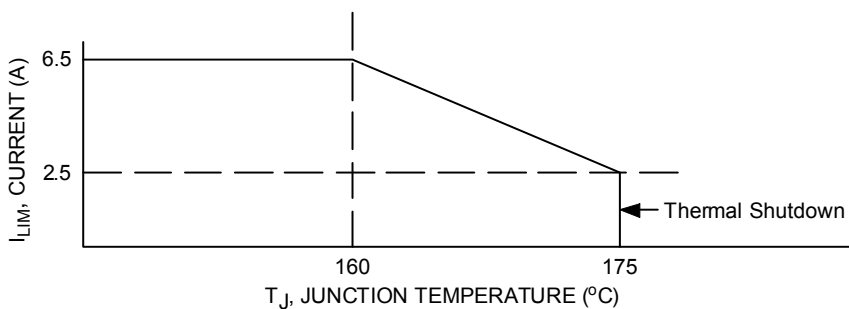
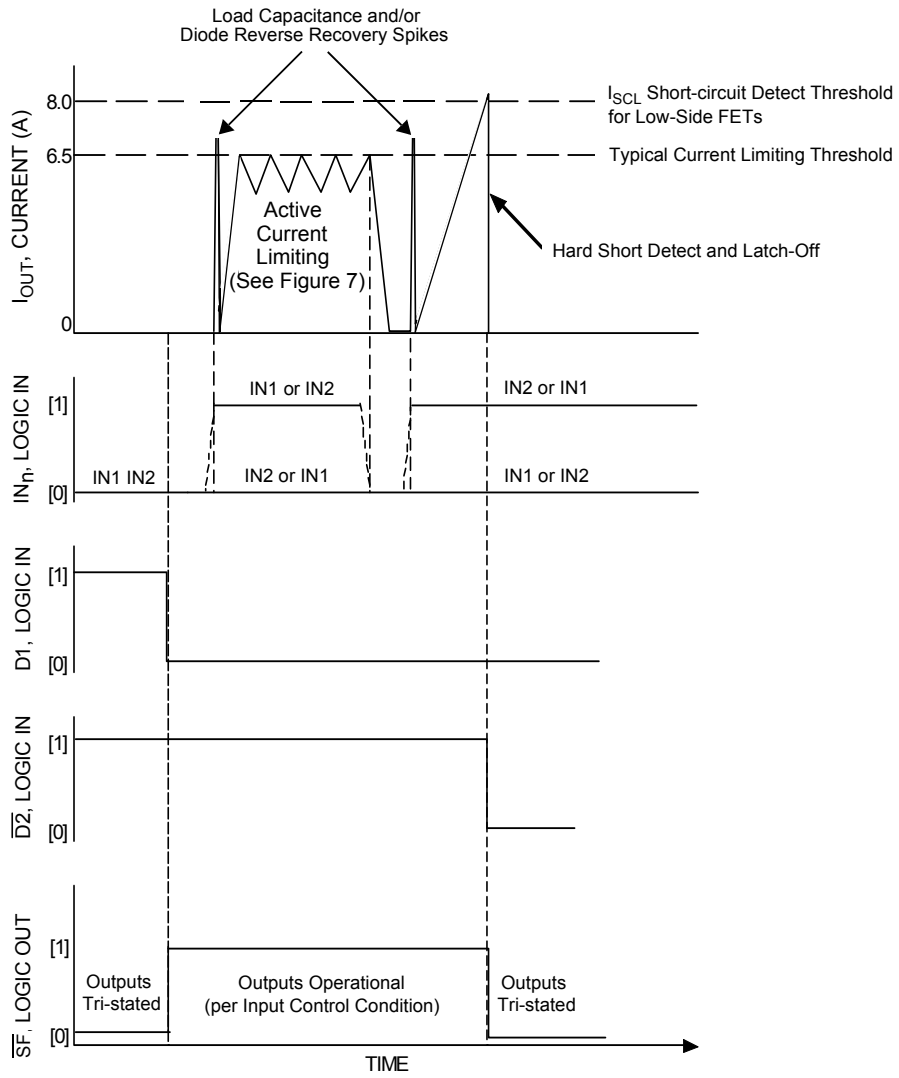

Figure 7. Active Current Limiting Versus Temperature (Typical)
Figure 8. Active Current Limiting Versus Time
26. Increasing currents will become limited at I_{LIM}. Hard shorts will breach the I_{SCH} or I_{SCL} limit, forcing the output into an immediate tri-state latch-OFF. See Figures 8 and 9, page 10. Active current limiting will cause junction temperatures to rise. A junction temperature above 160 °C will cause the active current limiting to progressively “fold-back” (or decrease) to 2.5 A typical at 175 °C where thermal latch-OFF will occur. See Figure 7, page 9.
The current limiting threshold value is dependent upon the device junction temperature. When $-40\text{ }^\circ\text{C} < T_J < 160\text{ }^\circ\text{C}$, I_{LIM} is between 5.2 A and 7.8 A. When T_J exceeds $160\text{ }^\circ\text{C}$, the I_{LIM} current decreases linearly down to 2.5 A typical at $175\text{ }^\circ\text{C}$. Above $175\text{ }^\circ\text{C}$ the device overtemperature circuit detects T_{LIM} and overtemperature shutdown occurs (see Figure 7, page 9). This feature allows the device to remain